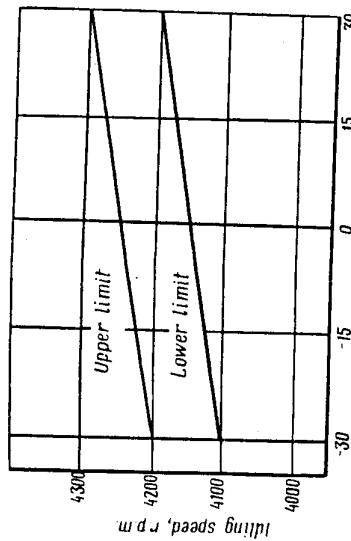

FIG.5. Graph Showing Dependence of Idling Speed on Ambient Air Temperature
Idling speed of the engine changes depending on the ambient air temperature, and should be maintained within the limits indicated in Table 2 and Fig.5.
Notes: 1. If the ambient air temperature rises in excess of +30°C or drops below -30°C, the engine speed graph (See Fig.5) should be continued in a straight line to either direction.
2. Turn the thumb-piece to adjust idling speed within the limits indicated in Table 2 and in Fig.5. When the thumb-piece is turned in the clockwise direction, engine speed is increased, while turning of the thumb-piece in the counter-clockwise direction causes engine speed to decrease. Turning of the thumb-piece by one click (in either direction) causes engine speed to change by approximately 15-25 r.p.m.